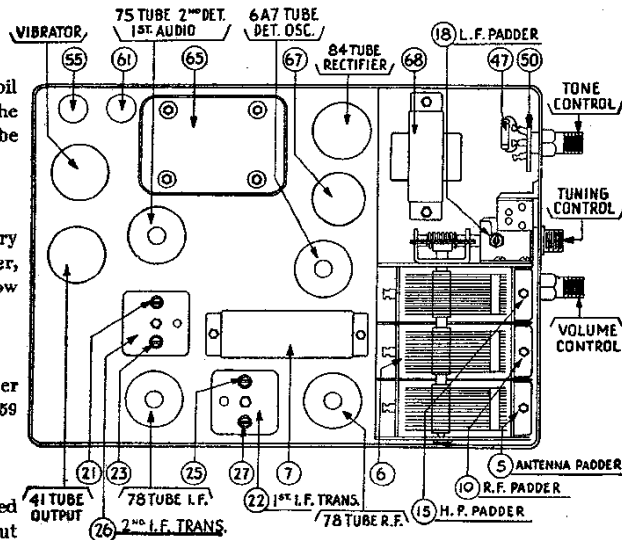

FIGURE 6
Both the primary and secondary padders are placed side by side in the top of the transformer shield can. The adjusting screws are accessible thru the holes in the top of the shield. (See Figure 6).
Adjust the secondary screw padder ② on the second I. F. transformer for maximum reading on the output meter. Then adjust the primary screw padder ① for maximum reading. (See Figure 6 for location of padders).
Connect the generator lead to the grid cap of the 6A7 tube in series with a .1 mfd. condenser (without removing the grid cap). Adjust the secondary screw padder ③ on the first I. F. transformer for maximum reading on the output meter. Then adjust the primary screw padder ④ for maximum reading. Readjust padders ② and ① with the generator lead connected to the type 6A7 tube. (See Figure 6 for location of padders).